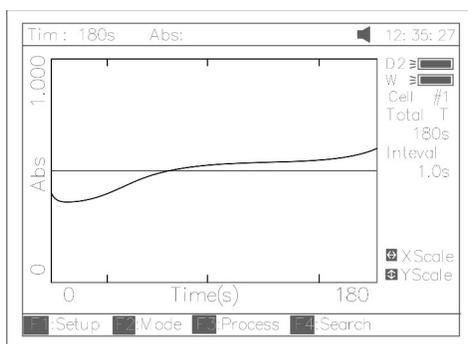

Fig 56
4. Pull the sample cuvette into Main Light Path, press 【START】 to scan the sample. After the delay time, the beeper beeps 3 times and time -scan starts. At the end of the time-scan, the beeper also beeps 3 times (Fig 56);